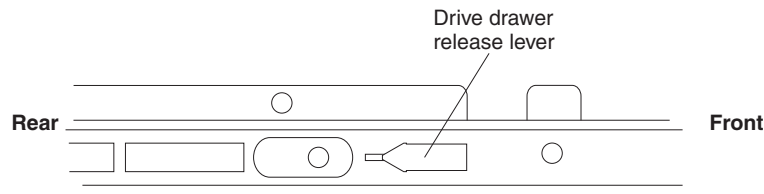

Figure 61. Drive drawer release lever on the side of the drive drawer
- d. Slide the drive drawer release lever (see Figure 61) on both sides of the drive drawer toward you, and remove the drive drawer from the enclosure.